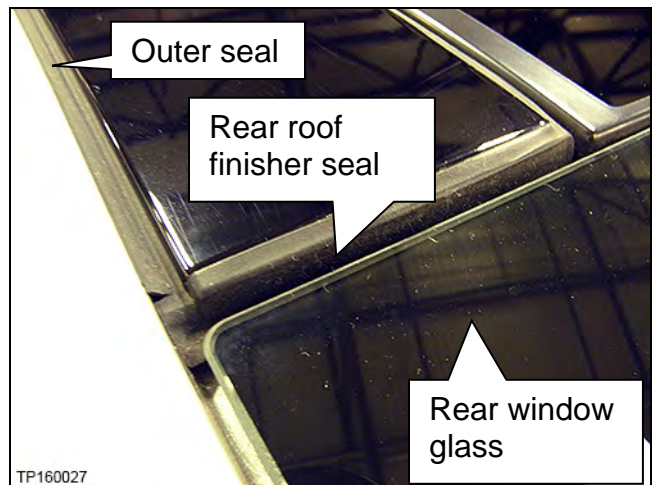

Figure 42
8. Tuck the rear roof finisher seal under the rear window glass (Figure 42).